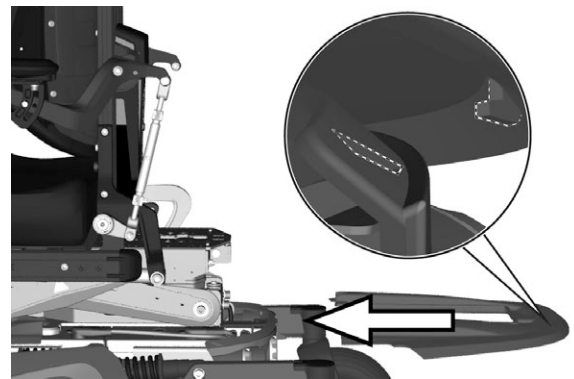

Figure 38. The chassis top cover.
6. Refit the top chassis covers on to the chassis. See fig. 38.